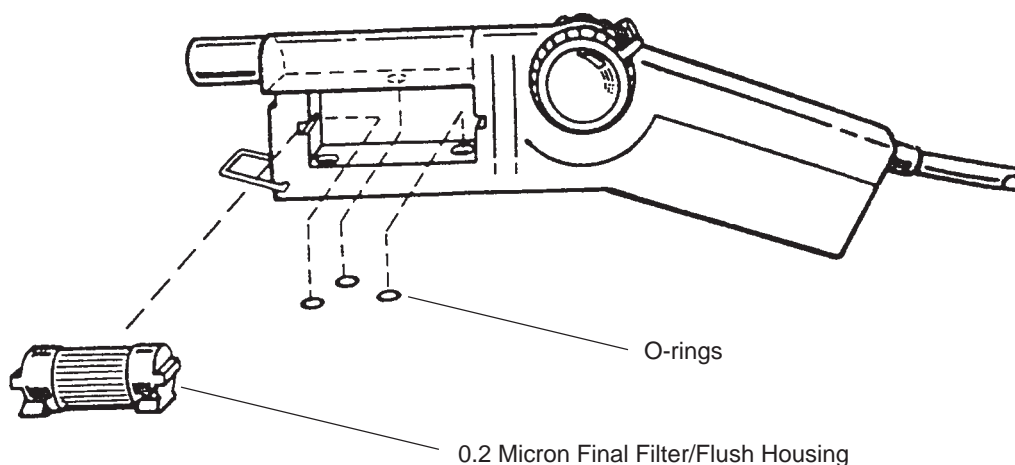

Figure 7 Remote Dispenser Final Filter Installation
10. Remove the system flush housing from the Remote Dispenser by gently pushing the housing in the direction of the grooves in the Remote Dispenser (Figure 7). Ensure that the O-rings remain in place.
11. Install a D3751, 0.2 Micron Final Filter into the Remote Dispenser by sliding the filter into the grooves on side of the Remote Dispenser (Figure 7).
2. Remove the system flush housing from the Remote Dispenser by gently pushing the housing in the direction of the grooves in the Remote Dispenser (Figure 7). Ensure that the O-rings remain in place.
3. Install a D3751, 0.2 Micron Final Filter into the Remote Dispenser by sliding the filter into the grooves on side of the Remote Dispenser (Figure 7).